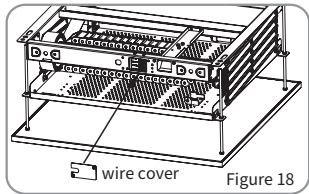

Figure 18
*External IR/RF remote control(Optional,External Slot in the back of Lift)(Figure 18 -20)
12. Before contacting the power cable of projector lift, please take out the wire cover in the back of lift (Figure 18). Then choose the control option and connect the controlling wires to terminals (Figure 19-20). For humanization, link the power after fixing the controller of cables on a place for easy using.